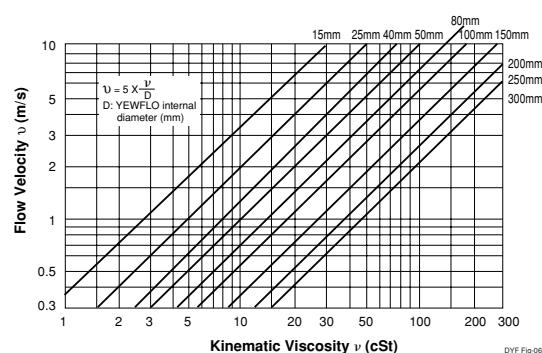

Figure 6 Flow velocity at Reynolds number of 5000(Liquid)
6 to 12 in (150 to 300 mm)	"flow velocity obtained from Table.5" or " flow velocity at Reynolds number of 40000", whichever is greater. For liquid Reynolds number of 40000 : The value is eight times velocity value in Figure.6
Kinematic Viscosity : Use of equation (2). When the nominal size is 50mm and the Kinematic viscosity is 10cSt, the flow velocity at Reynolds number of 5000 is 1m/s using Figure 6.